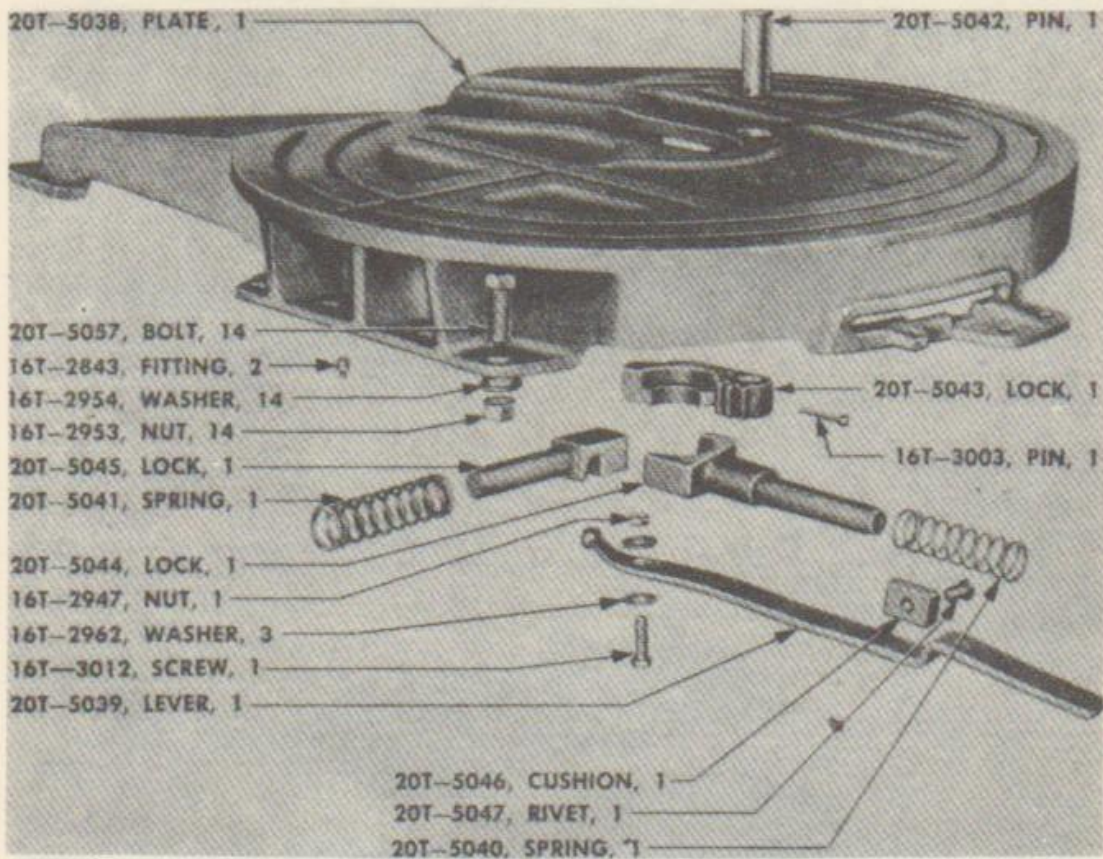

FIGURE 71. FIFTH WHEEL—EXPLODED VIEW
c. Disassembly (fig. 71). Place fifth wheel on blocks for extraction of hinge pin. Pull cotter pin 16T-3003 from hinge pin 20T-5042 and use drift to remove hinge pin. Push lever 20T-5039 to center of plate and remove hinged lock 20T-5043. Keep lever in retracted position while removing sliding lock 20T-5044 and spring 20T-5040. Remove block carefully from lock plunger and remove plunger lock 20T-5044 and spring 20T-5041.